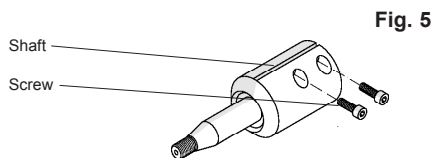

Fig. 5
7. See Fig. 5. Loosen the screws in the shaft muff, pull the shaft off and replace the motor.